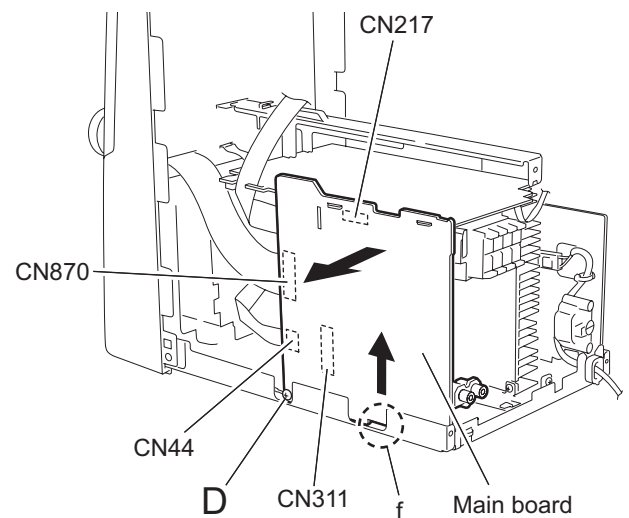

Fig.19
3.1.7 Removing the main board (See Fig.19)